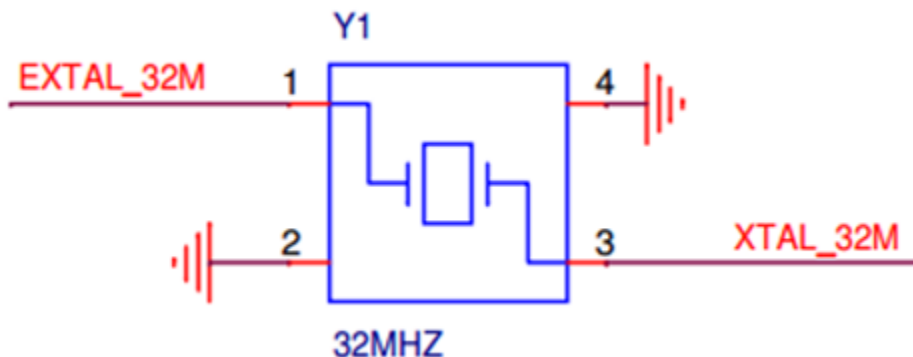

Figure 6. USB-KW41Z 32 MHz reference oscillator circuit
An optional MMCX connector is located at J4. This can be bypassed by populating a 10 pF capacitor at C19. The following figure 6 shows the RF circuit in detail:
- Figure 6 shows the 32 MHz external crystal Y1, which is an IEEE std. 802.15.4 compliant crystal (less than ± 40 ppm). The IEEE Std. 802.15.4 requires the frequency to be accurate to less than ± 40 ppm